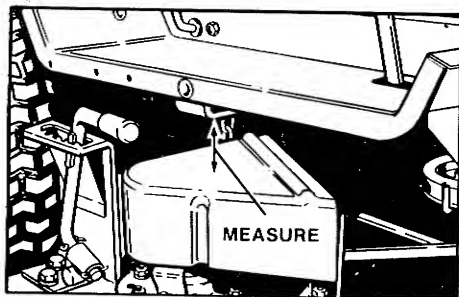

Figure 38. Measurement - Lift Lever
2. Measure the distance between top of pulley cover and bottom of upstop bracket on right-hand side (figure 38).